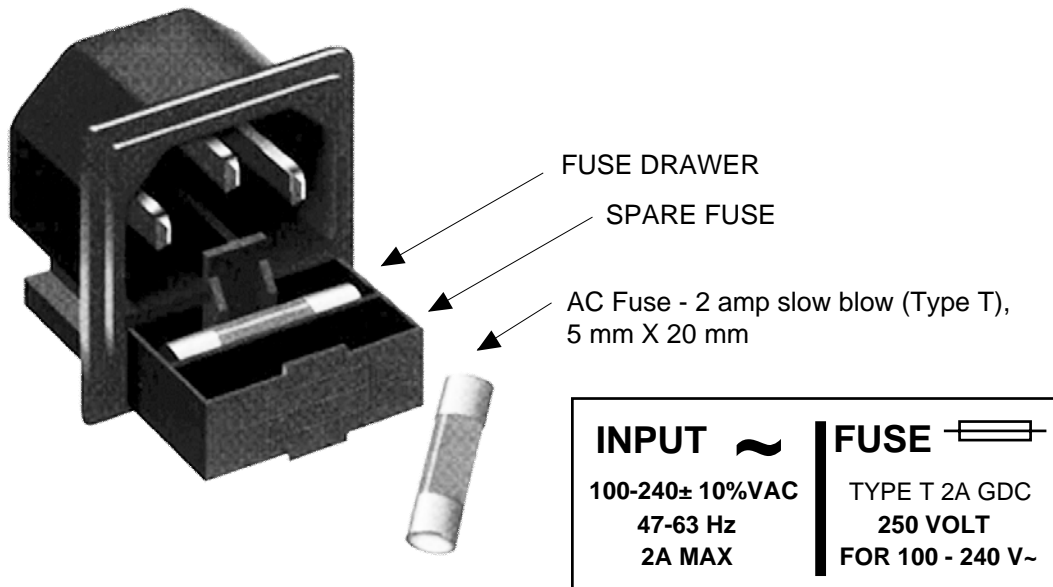

FIGURE 2.3 Fuse Location and Spare Fuse
6. AC Fuse - The fuse is a 5 mm X 20 mm, 2 amp slow blow (Type T) and is inserted in the far slot in the drawer below the AC input as shown in Figure 2.3. There is a spare fuse in the near slot. If a fuse continues to open, the power supply is most likely defective.